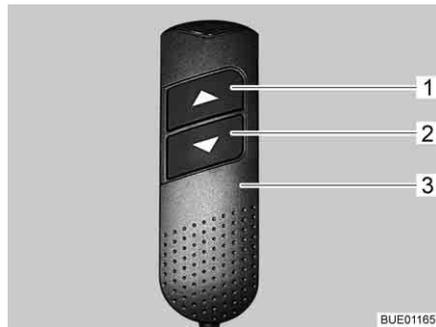

Fig. 137 Manual control unit
- On the manual control unit (Fig. 137,3) push the "▼" button (Fig. 137,2) and keep it pressed. The foot section is retracted. The head sections are raised.
- On the manual control unit (Fig. 137,3) push the "▲" button (Fig. 137,1) and keep it pressed. The foot section is extended. The head sections are lowered.
- On the manual control unit (Fig. 137,3), press the "▼" button (Fig. 137,2) or "▲" button (Fig. 137,1) until the desired position is reached.